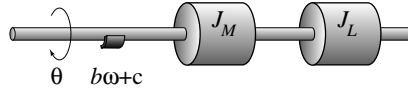

Figure 4.5: Motor Mechanical Diagram with open electrical circuit.
- (d) The mechanical time constant, and hence the total moment of inertia, J , can be determined by opening the motor circuit ($i_a = 0$) while the motor is rotating and observing the resulting decay in speed. The situation is shown in Figure 4.5.